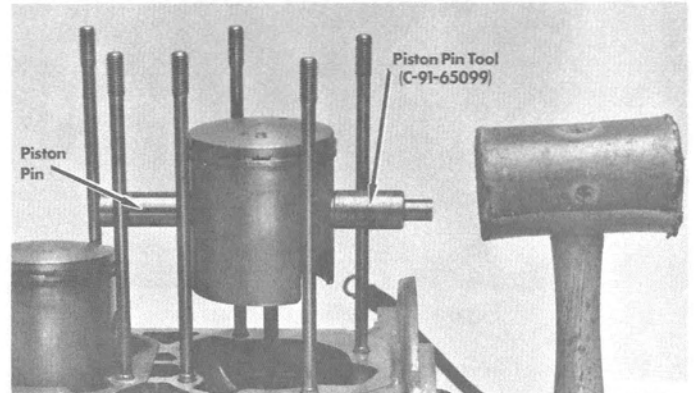

Figure 5. Piston Pin Removal - Installation
6. Remove piston pin with Piston Pin Tool (C-91-65099). (Figure 5)